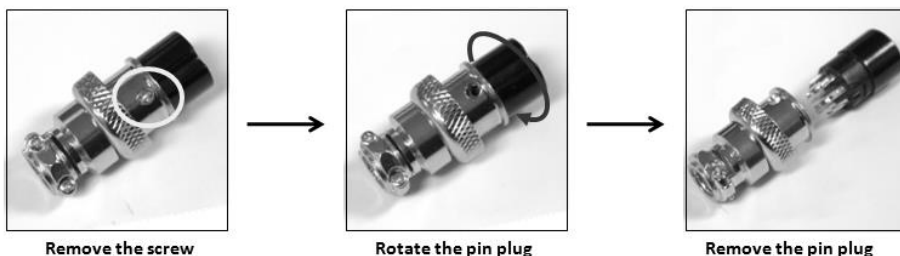

Figure 4 - Remote Control Connector
- (a) Remove the black portion of the remote control connector plug by removing the screw as shown in Figure 4.